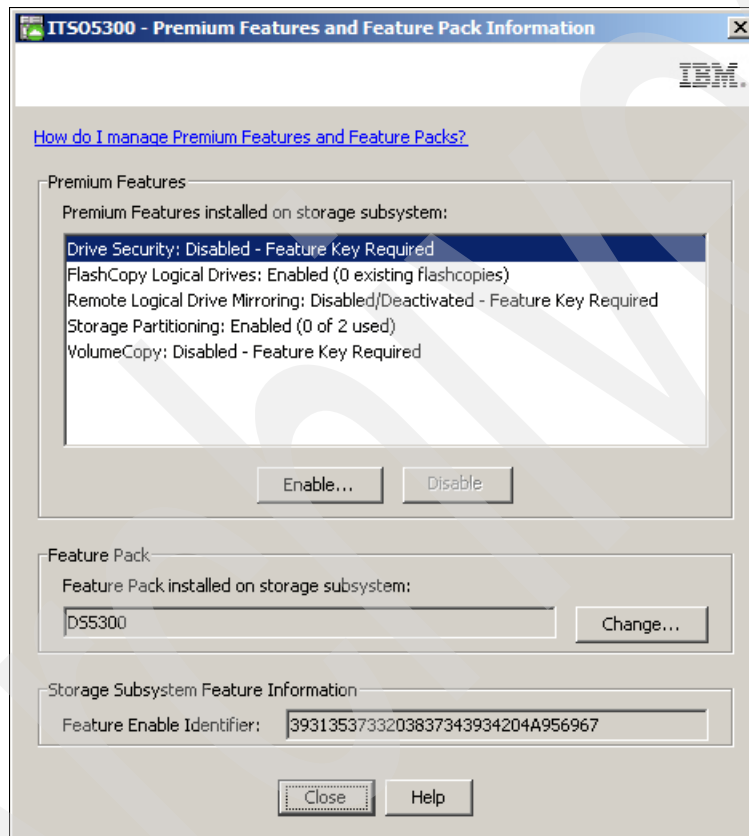

Figure 7-34 Listing premium features
1. Select **Storage Subsystem** → **Premium Features** from the Subsystem Management window. The Premium Features window opens and shows a list of enabled premium features (see Figure 7-34).